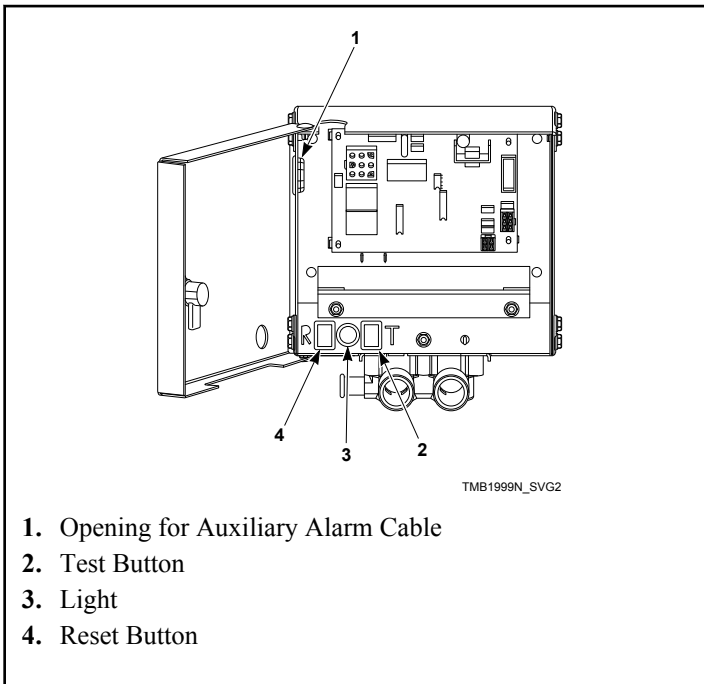
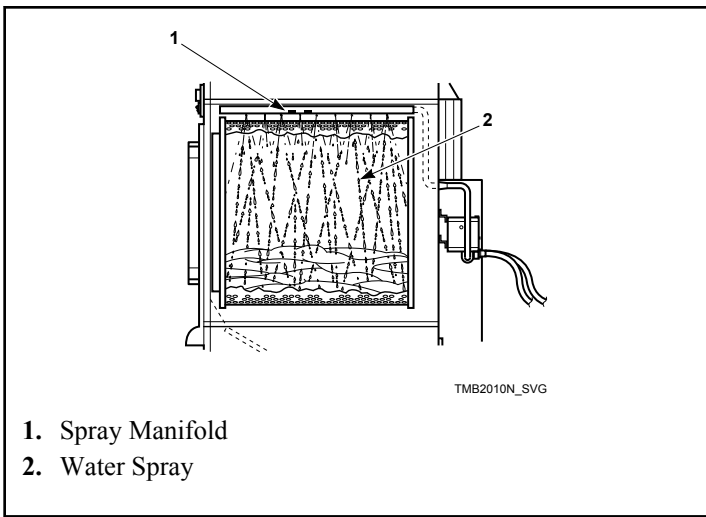

Figure 66
Figure 67
- Press and hold the test button, verify the light is on, this should take approximately five seconds. Refer to *Figure 66*. After a one-second pause water should begin to spray into the cylinder.
- After 15 seconds of water spray, press and hold the reset button until water spray is off and light is off. This should take approximately one second. Refer to *Figure 66* and *Figure 67*.